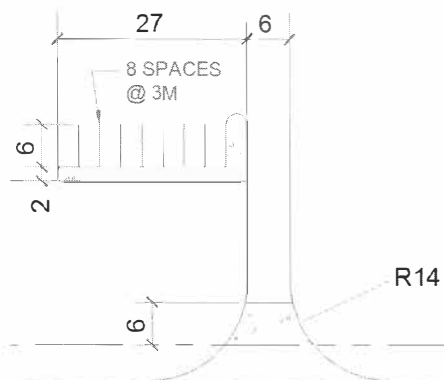

Figure 12-29
4. Add the parking area and concrete valley swale to the driveway, as shown in Figure 12-29. Hatch the areas shown in Figure 12-29 on the layer **Pavement Hatching**, using the **AR-Conc** pattern, with a scale of **0.03**.